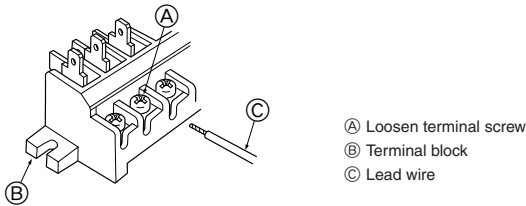

Fig. 7-9
- Use care not to make mis-wiring. (Fig. 7-9)